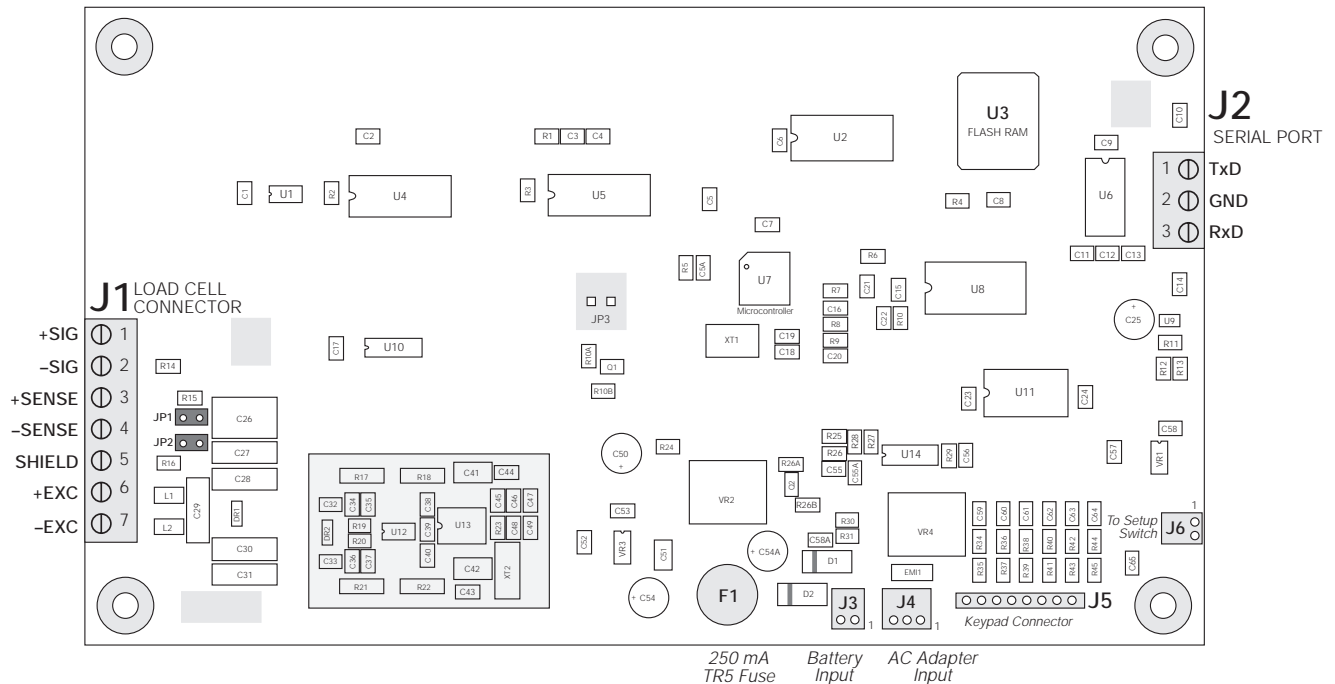

Figure 2-2. IQ plus 390-DC CPU Board
To attach cable from a load cell or junction box, remove connector J1 from the board. The connector plugs into a header on the board. Connect cable from the load cell or junction box through the load cell cable cord grip to connector J1 as shown in Table 2-1. If using 6-wire load cell cable (with sense wires), remove jumpers JP1 and JP2 before reinstalling connector J1 (see Figure 2-2). For 4-wire installation, leave jumpers JP1 and JP2 on.
To attach serial communications cables, remove connector J2 from the board (see Figure 2-2). Connect communications cable through cord grip to connector J2 as shown in Table 2-2.
2. Unplug all connections to the CPU board. See Figure 2-2 on page 5 for connector locations.